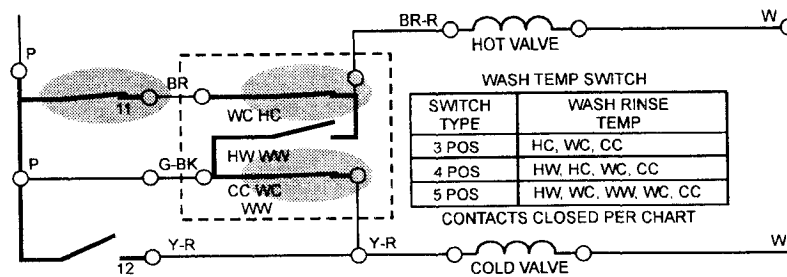

Fig. 21
5. The water temperature is selected by several switches that are set for mixing hot and cold water during the fill. Selecting a WARM wash with a COLD rinse closes these switches. (Fig. 21) The cycle sequence chart shows us that timer contact 11 is closed during the wash cycle. (Fig. 22)